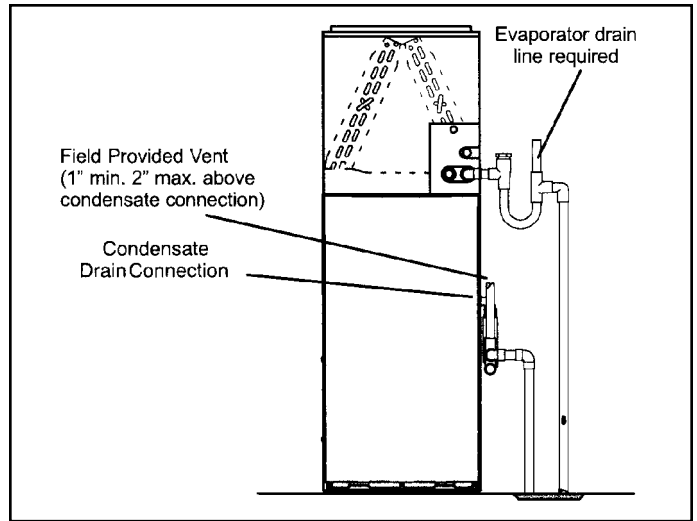
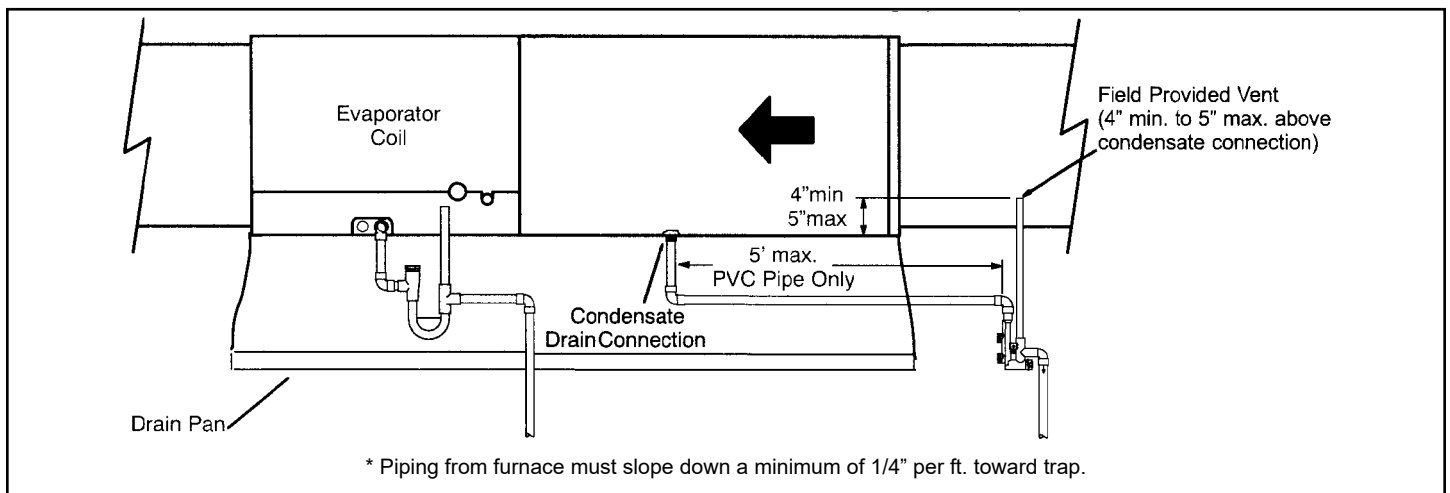
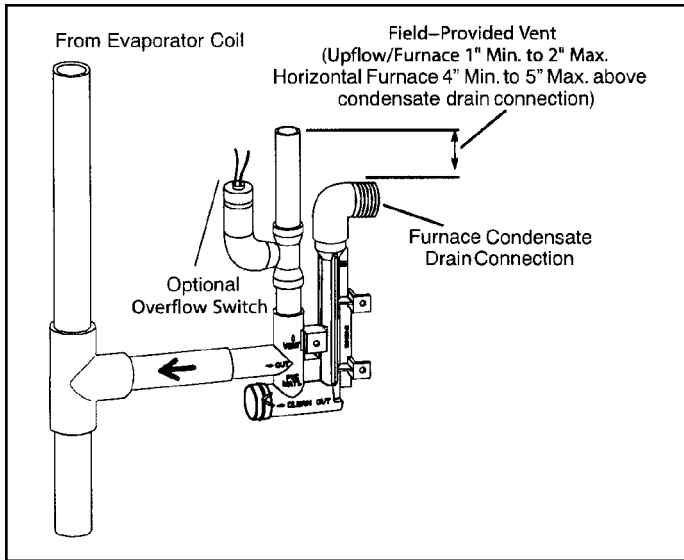

Figure 46. Unit with Cooling Coil Using Separate Drain
Figure 47. Evaporator Coil Using a Separate Drain
Figure 48. Condensate Trap with Optional Overflow Switch
5. Figure 46 and Figure 47 show the furnace and evaporator coil using a separate drain. If necessary the condensate line from the furnace and evaporator coil can drain together. See Figure 48 through Figure 50.
Upflow furnace (Figure 46 and Figure 49) - In upflow furnace applications the field provided vent must be a minimum 1" to a maximum 2" length above the condensate drain outlet connection. Any length above 2" may result in a flooded heat exchanger if the combined primary drain line were to become restricted.
Horizontal furnace (Figure 47 and Figure 50) - In horizontal furnace applications the field provided vent must be a minimum 4" to a maximum 5" length above the condensate drain outlet connection. Any length